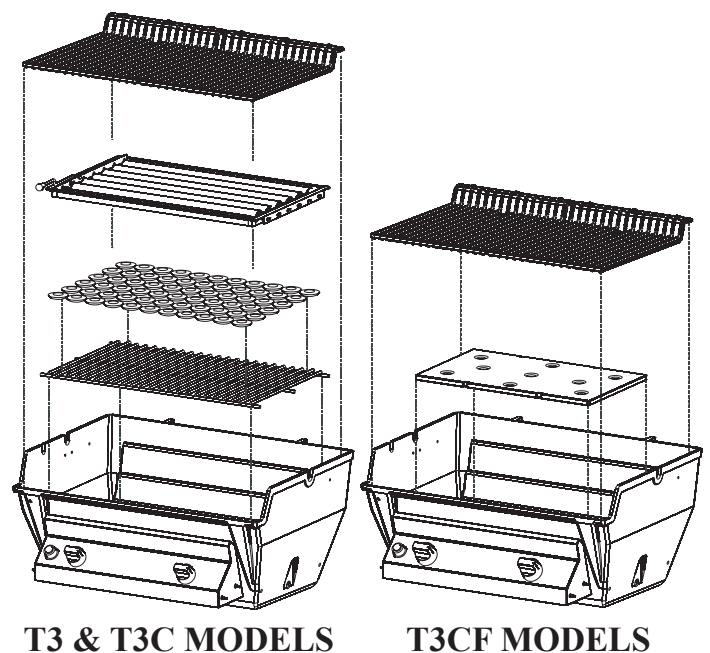

Figure 12
11. Place the briquet rack (7) or flavor screen (9) over the burners. See Figure 12.
12. T3 and T3C models only: Position the Char-Master briquets evenly on the briquette rack without overlapping. See Figure 12.
13. T3CA models only: Position Smoker Shutter (26) see the DPA100 instruction manual included with the T3CA grills. See Figure 12.
14. Set the cooking grids (6). See Figure 12.
15. Push valve knobs (22) on to valves.
Individually place the 'Char-Master' briquets in a single layer evenly on your grill's briquet rack; DO NOT dump them onto the briquet rack. A single layer of 'Char-Master' briquets is all that's needed. DO NOT overlap or stack the briquets. See Figure 12.